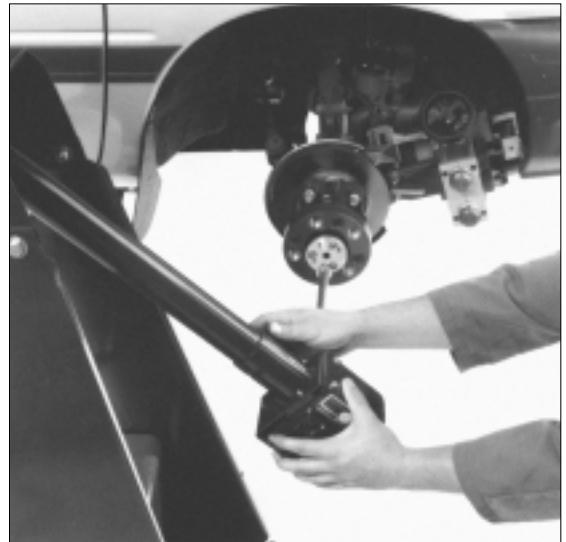

Figure 30
**3.** Loosen the knob securing the gearbox to the motor tube, and rotate the gearbox end drive shaft to an approximate right angle position relative to the tilt of the rotor, Fig. 30